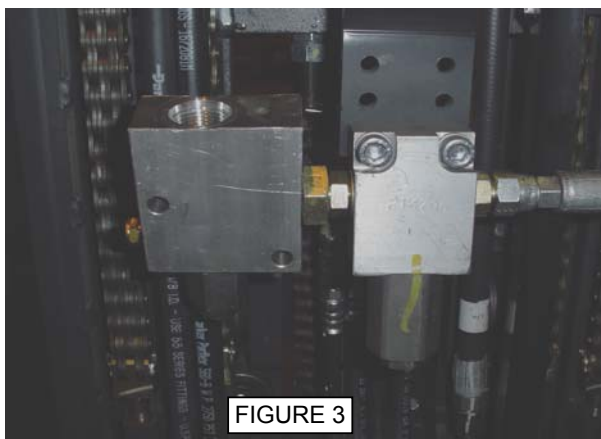

FIGURE 3
3. With the valve manifold oriented as shown in figure 3, install the 90° adaptor fitting into the upper port of the slack chain valve manifold.